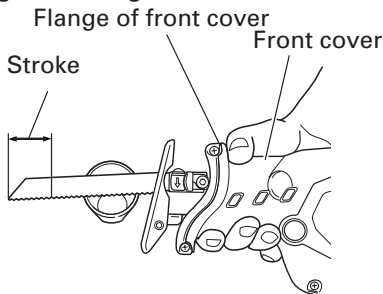
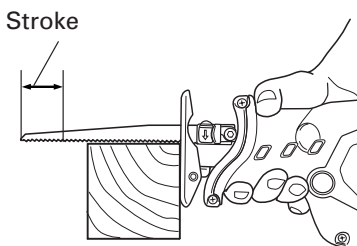

Fig. 18
Fig. 19
But, do not extend your hand or finger beyond the flange (see Fig.18) of front cover to avoid an injury.
- Select a saw blade of the most appropriate length. Ideally, the length protruding from the base of the saw blade after subtracting the stroke should be larger than the material (see Fig. 18 and Fig. 19).